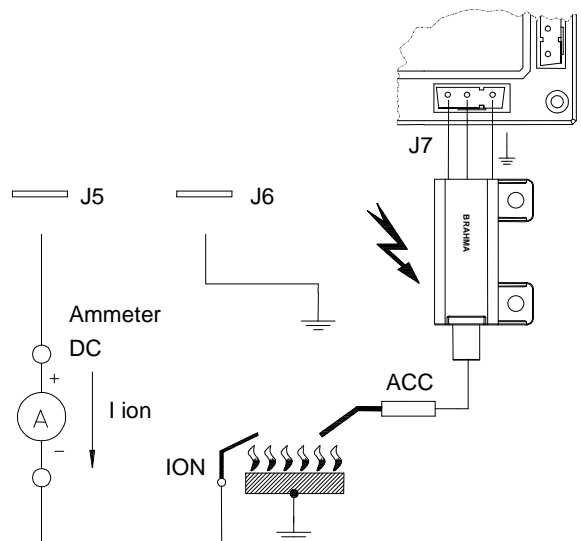
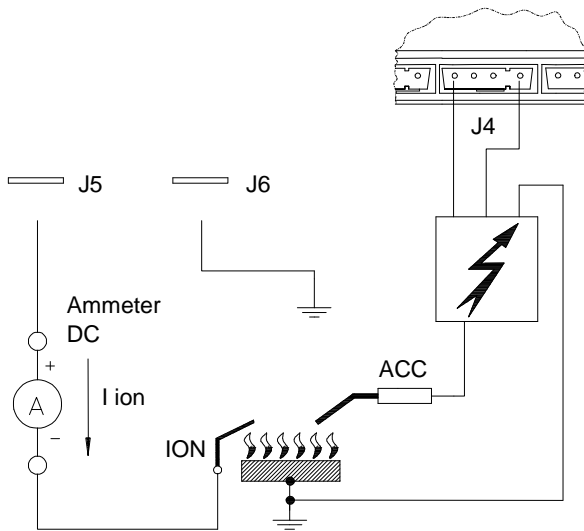

Fig.6 – Flame signal measurement method in “FR” controllers
Fig.7 – Flame signal measurement method in “PR” controllers
- the flame signal level is high enough (see Fig. 6 for the measuring method to be adapted in case of MICROFLAT controllers type FR and Fig. 7 in case of MICROFLAT controllers type PR);